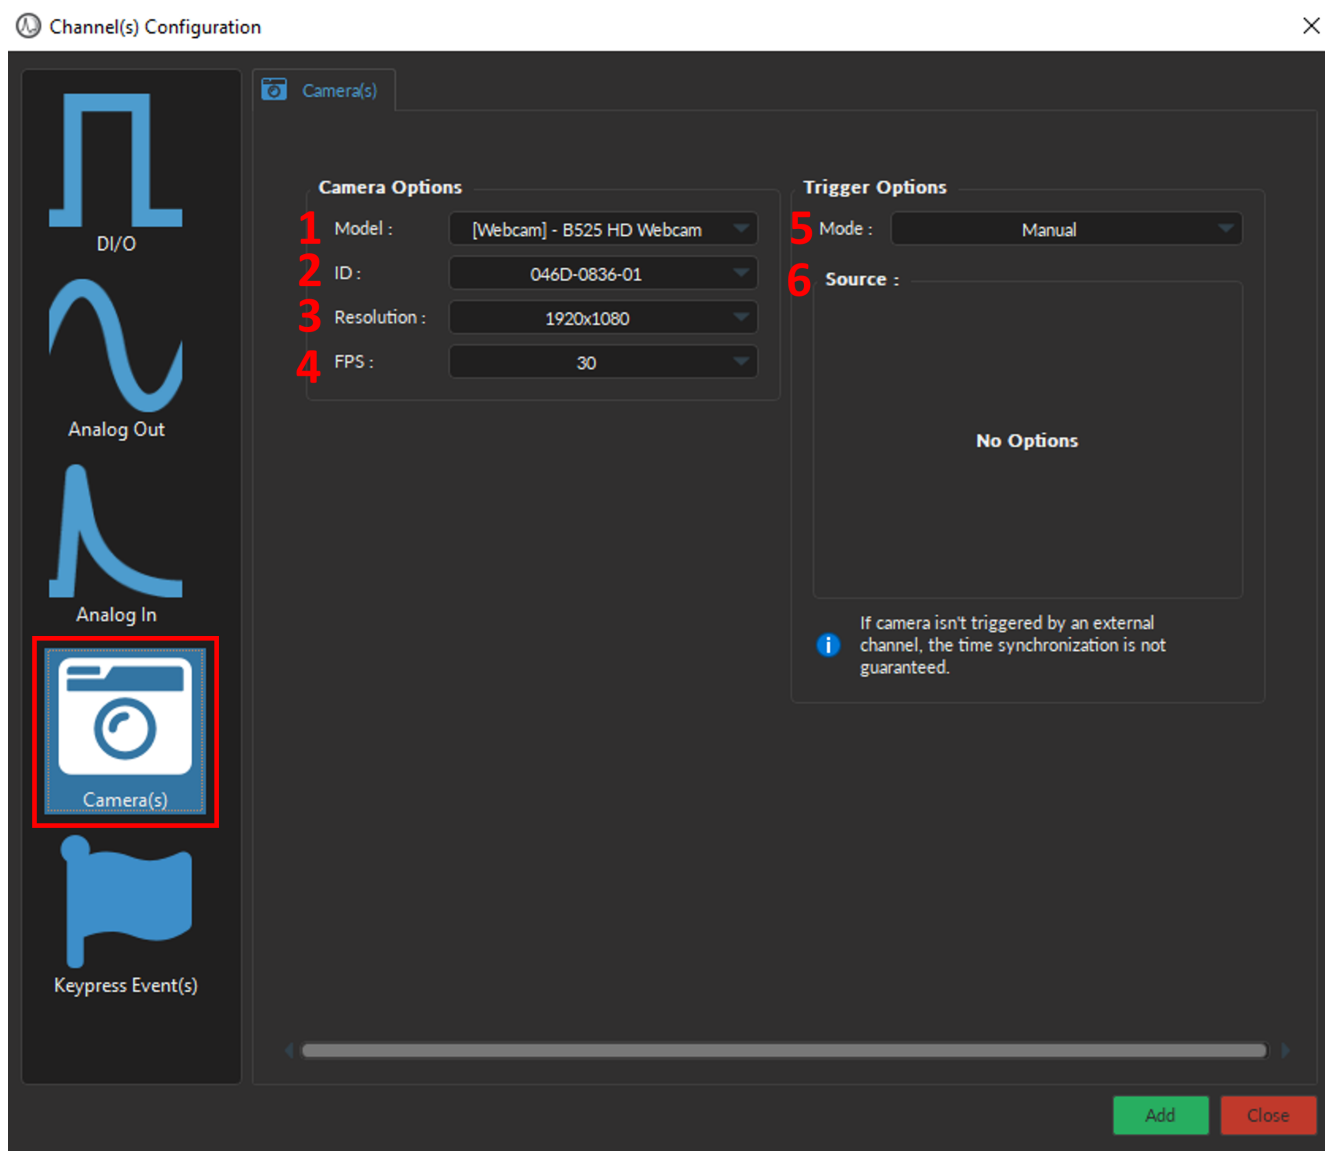
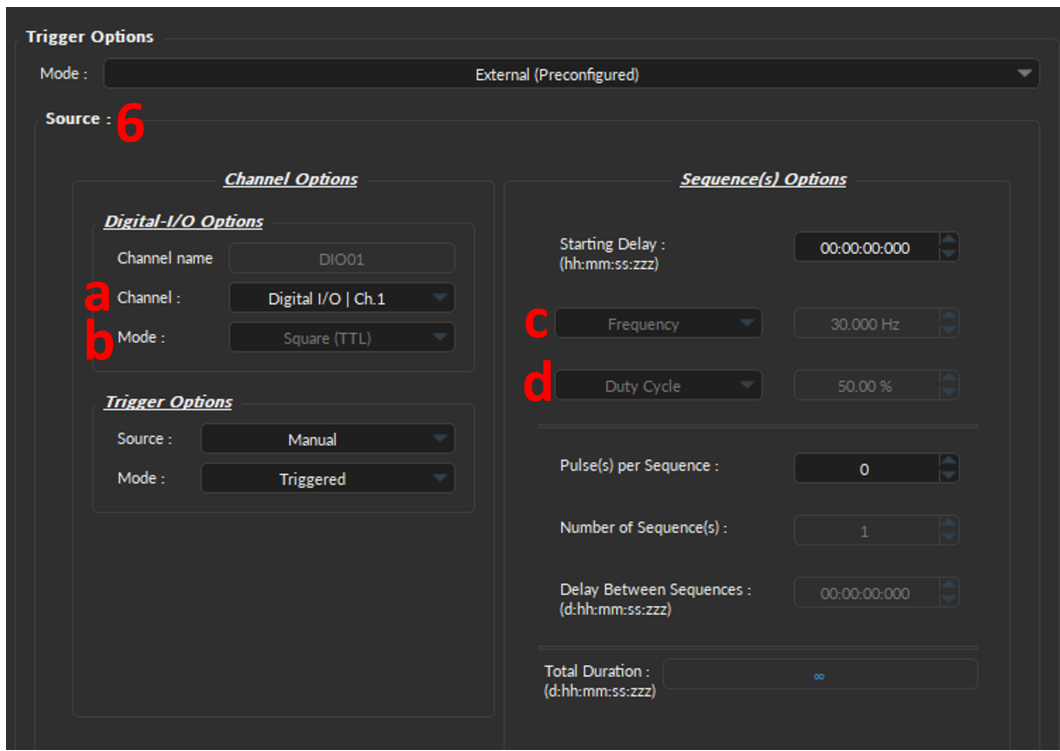

Figure 6.37: Channel(s) Configuration, Camera
Figure 6.39: Channel(s) Configuration, Camera - External (Preconfigured)
1. The **Model** (Fig. 6.37, 1) allows you to select the camera of choice based on the type of camera.
2. **ID** drop-down list (Fig. 6.37, 2) is used to select a camera based on its unique ID. The ID is particularly useful if multiple cameras of the same model are required for the experiment.
3. The **Resolution** (Fig. 6.37, 3) is used to set the image size. The larger the number of pixels used for width x height, the better the resolution. Currently, image size can range between 160x120 to 1920x1080 pixels.
- The **FPS** (Fig. 6.37, 4) is used to specify the frame rate of the camera (i.e. the number of images displayed per second). FPS can be any value between 5-30 for web cameras and up to 60 FPS for the *Doric Behavior Camera*.
- The **Mode** (Fig. 6.37, 5) sets the type of trigger that will control the camera. Depending on the type of camera, at most three modes are available:
- The **Source** (Fig. 6.37, 6 & Fig. 6.39) is only used for the **External (Preconfigured)** mode, and displays the **Digital I/O** channel with the preconfigured parameters that will be created at the same time as the **Camera Channel** (Fig. 6.39). For a detailed description of each Digital I/O parameter see the corresponding section in the Fiber Photometry System Manual. Briefly, key parameters include:
- The **Channel** (Fig. 6.39, a) corresponds to the physical Digital I/O channel number on the Console that is connected to the trigger cable of the *Doric Behavior Camera*.
- The **Mode** (Fig. 6.39, b) is by default set to the *Square (TTL)* which provides the external trigger signal to the camera. This parameter cannot be changed.
- c) The **Frequency** (Fig. 6.39, c) corresponds to the **FPS** set in the **Camera Options**. Changing the **FPS** will automatically change the **Frequency** in the **Sequence(s) Options**.
- d) The **Duty Cycle** (Fig. 6.39, d) is by default 50%. The frame will be taken at the start of each square pulse.